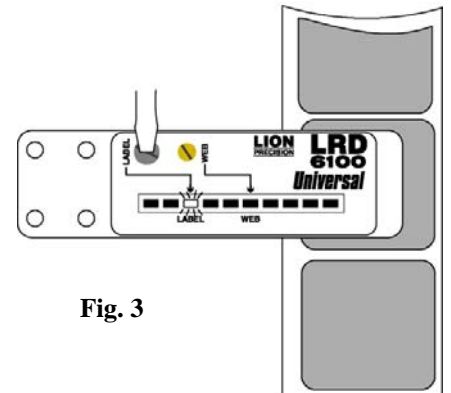

Fig. 3
- the LABEL light is on during all or part of the label (lights to the left of LABEL may be on during some parts of the label). (Fig. 3)